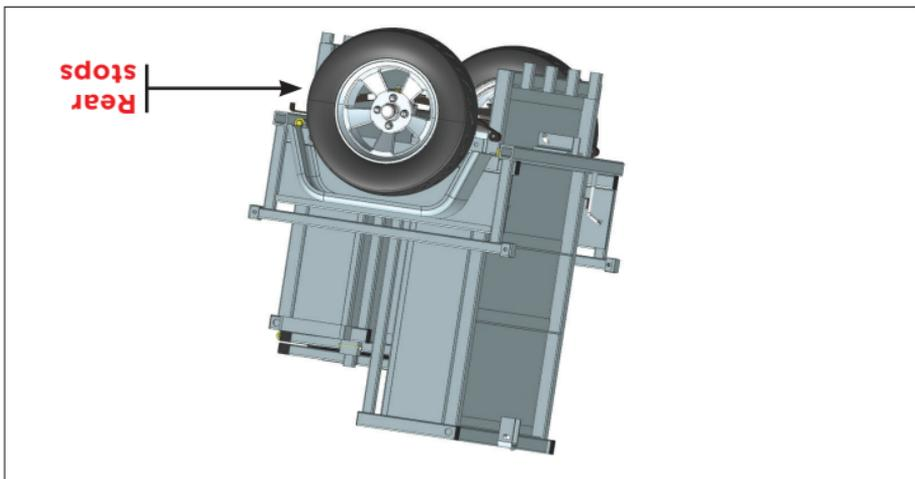
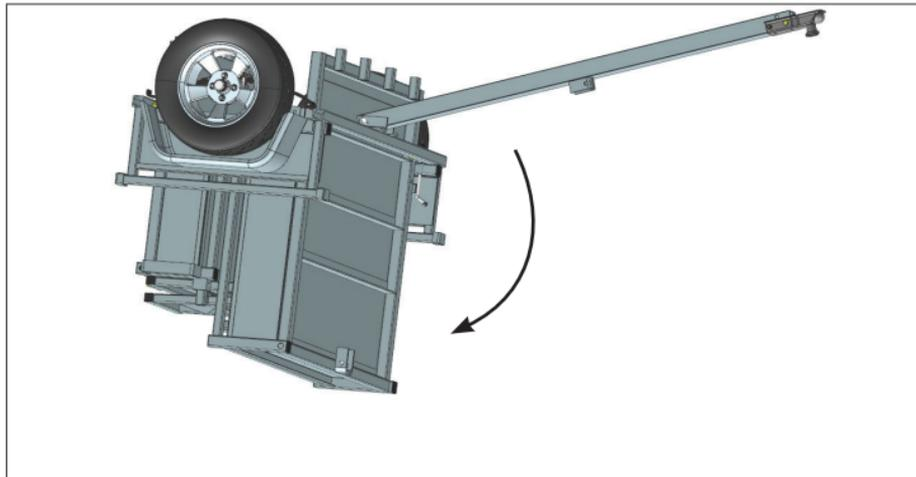

Figure 14: Trailer tipped onto the stops on the rear section
Figure 12: Tip the trailer onto the stops of the rear section
- 1.1. Attach the tongue to the main body of the trailer by inserting it into its corresponding section. Put the tongue pin in the corresponding pin holes. Lock the pin and ensure it is safely locked and can not come out by itself. Fig. 12 and Fig. 14